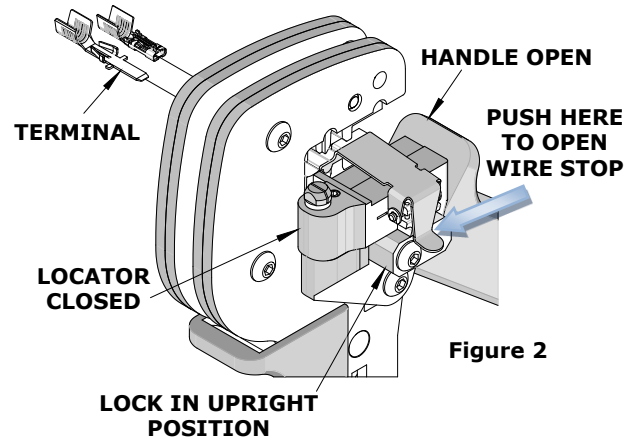

Figure 2
1. Move the lock down and swing open the terminal locator. See Figure 2.
5. Swing the terminal locator against the crimp tool and move the lock up. See Figure 2.
Make sure the terminal locator is against the hand crimp tool and the lock is up. For crimping, terminals must be loaded while the locator is closed and locked. The terminal locator may need to be pushed down slightly for terminals to load easily. See Figure 2.
1. To raise the wire stop, press the tab on the wire stop as shown in Figure 2. Insert the proper terminal into the nest opening and release the wire stop to lower it. When choosing the nest opening, remember that profile A is for female terminals and profile B is for male terminals. Make sure the terminal is fully seated in the nest opening.